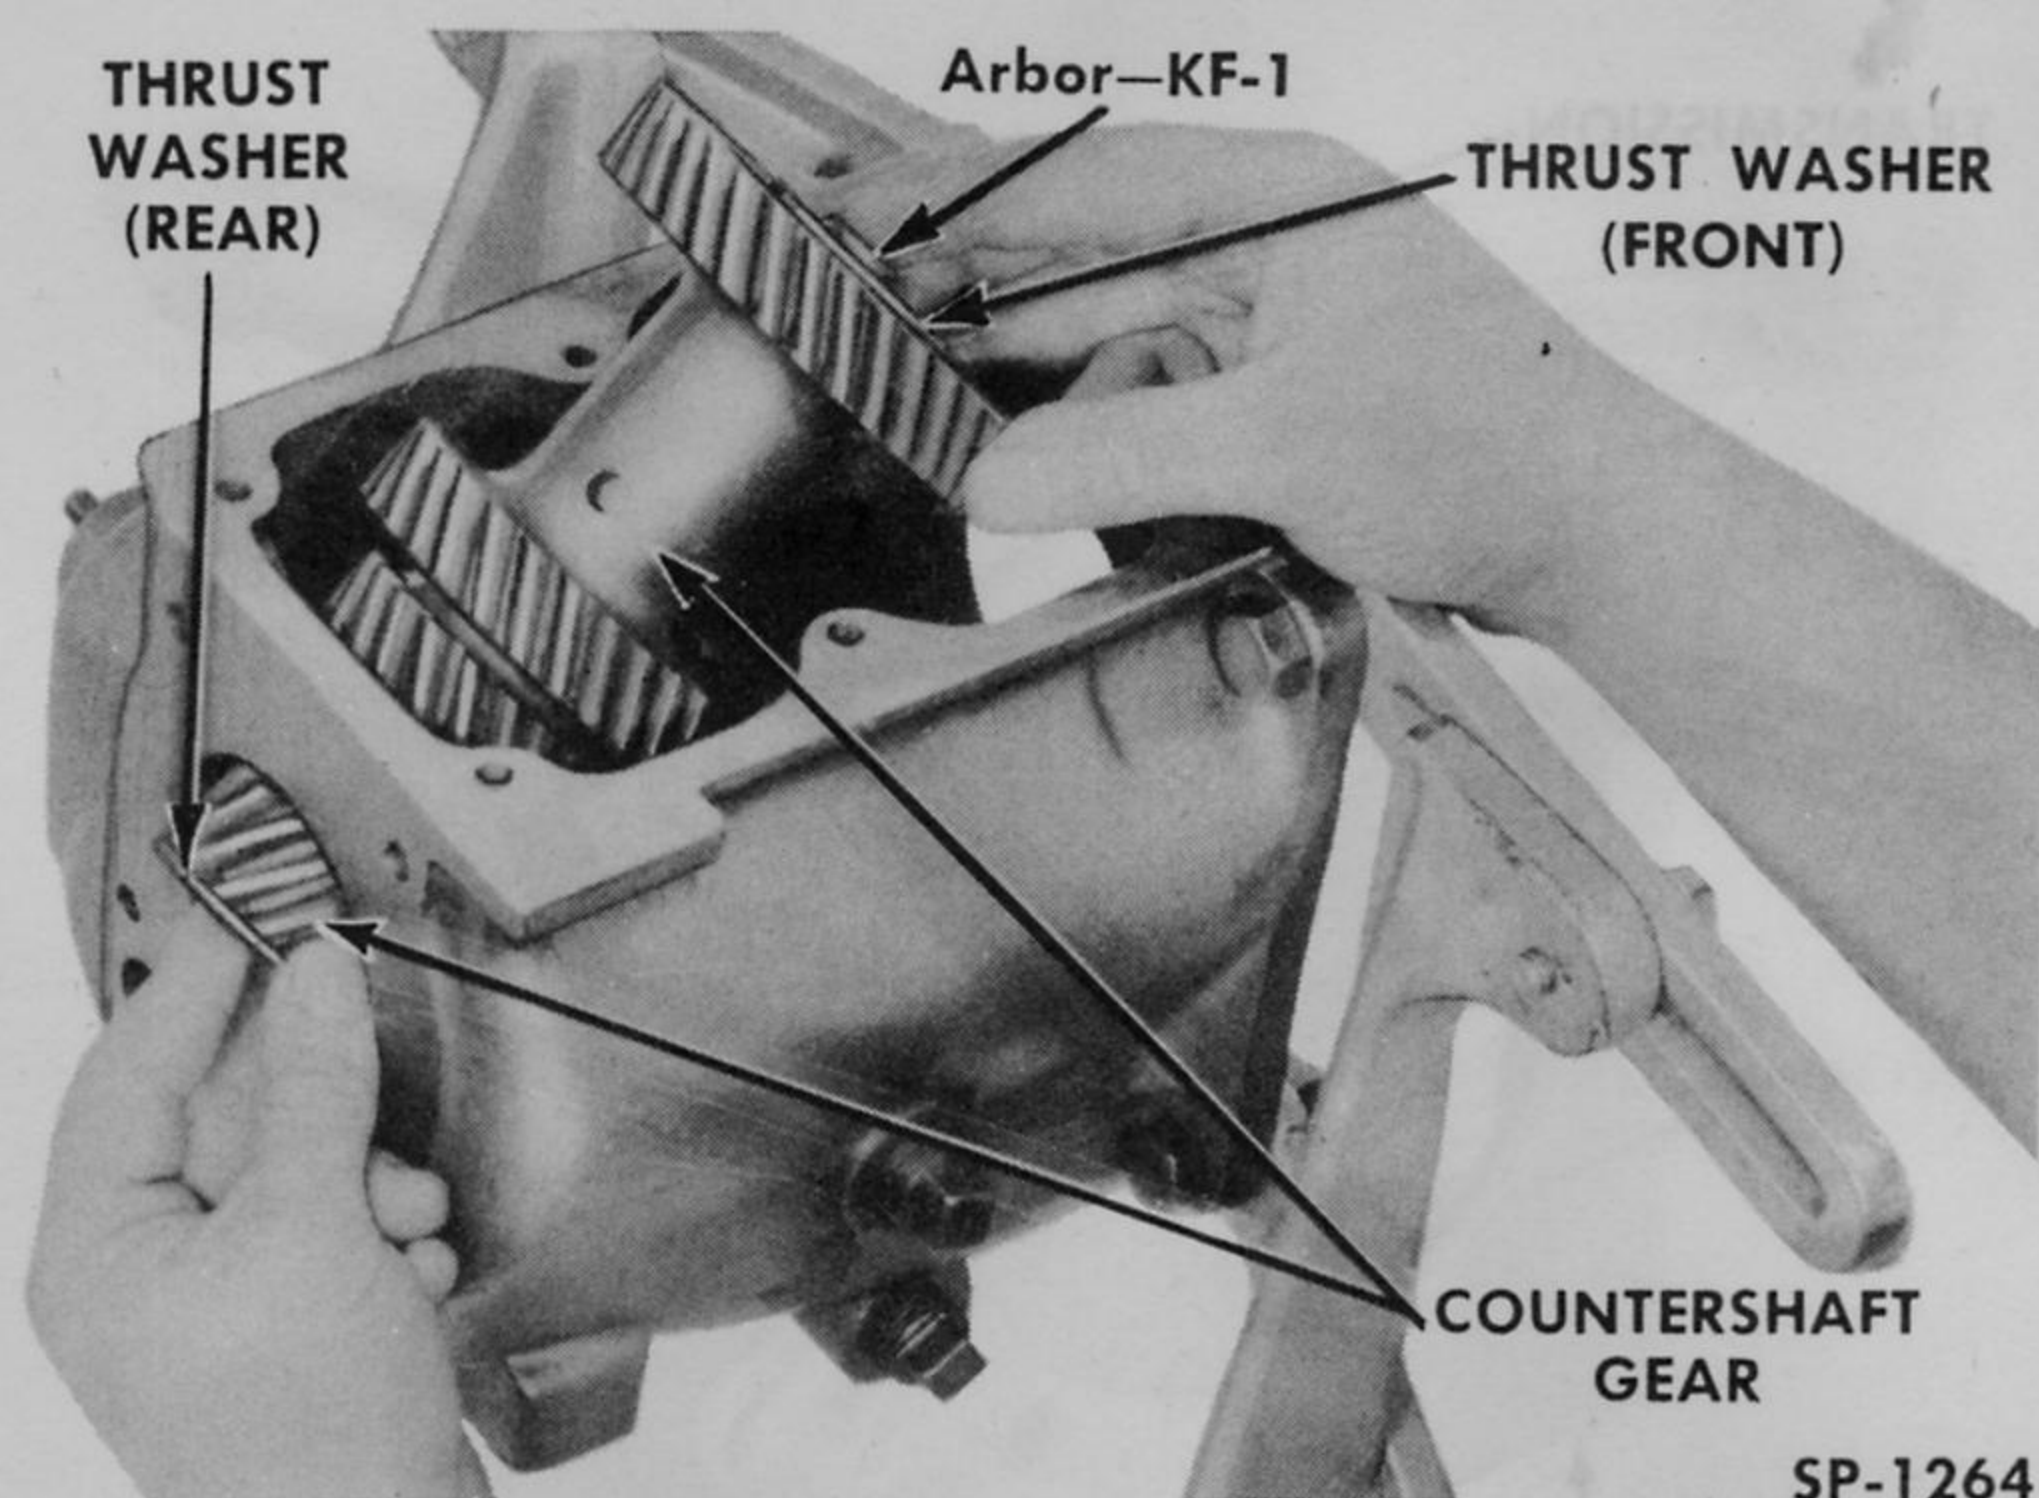
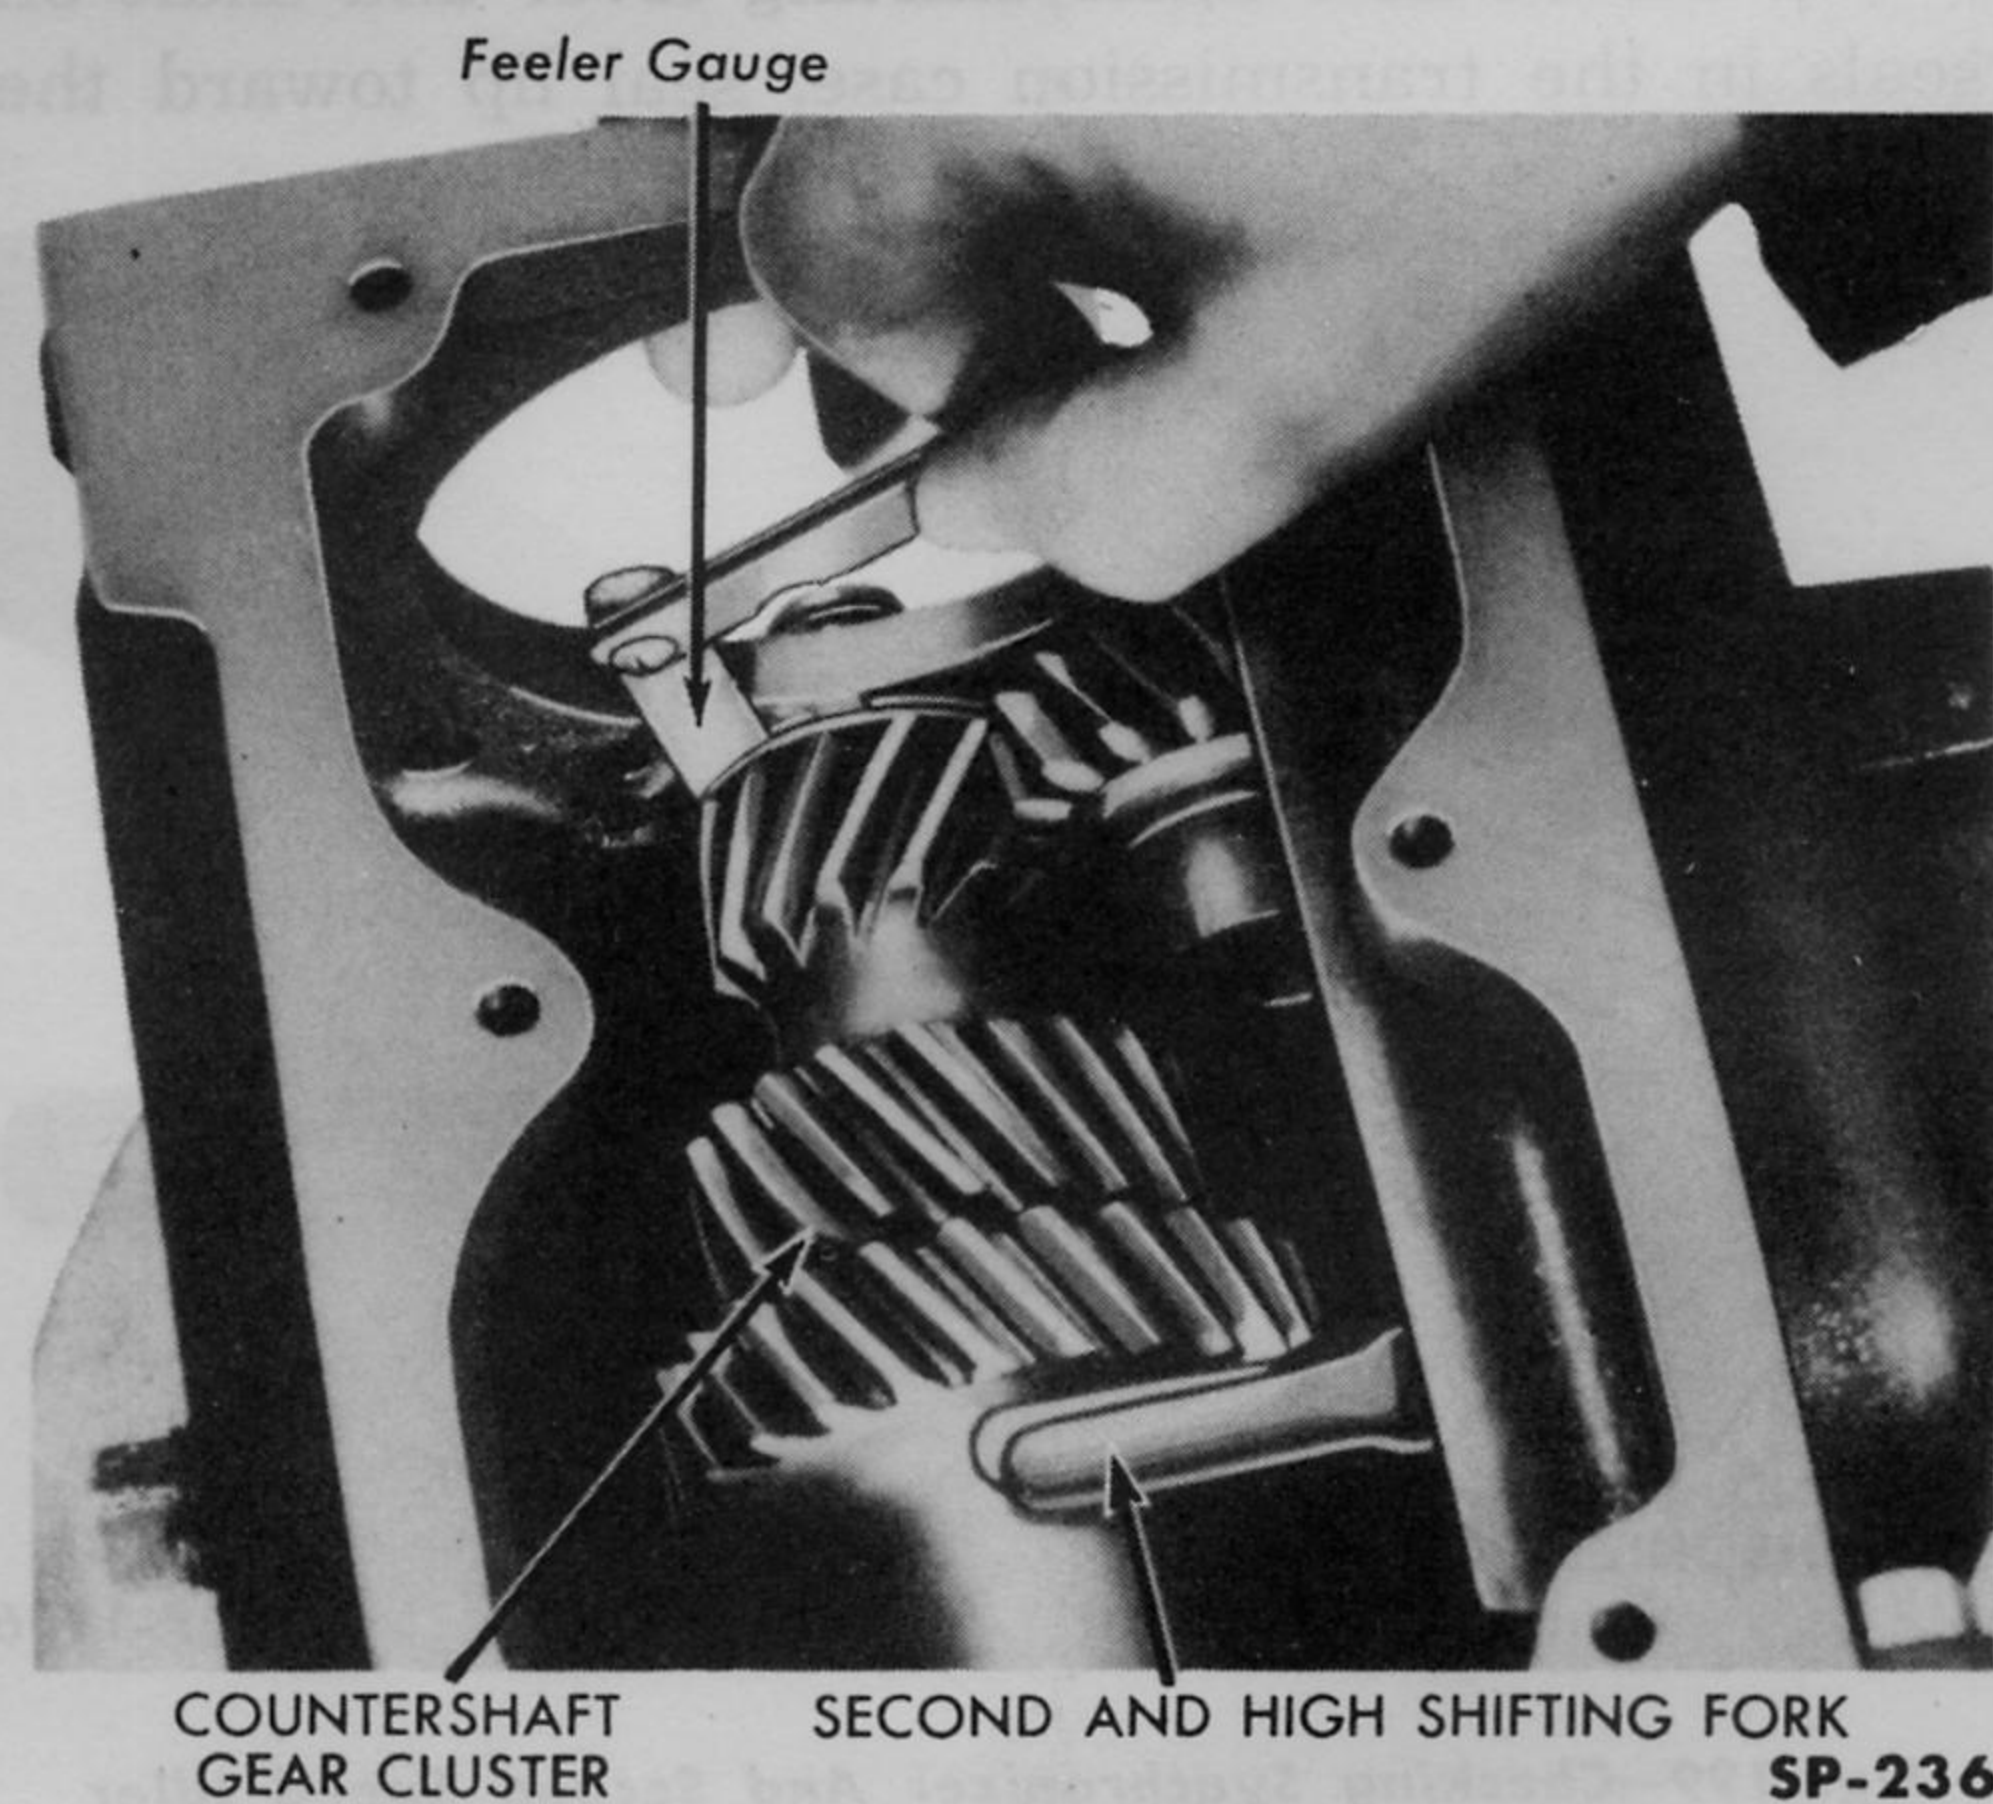

Fig. 193—Removing Countershaft Gear From Case
Fig. 203—Checking Countershaft Gear End-Play
10. Lift the countershaft gear cluster out through the top of the transmission case (Fig. 193). Hold the Arbor KF-1 and thrust washers at the small end of the gear to prevent the arbor from falling out when the gear is tilted when removing it from the case. Carefully note the position of the thrust washers at each end of the gear cluster to assure proper installation at assembly.
The countershaft may now be installed from the top of the case (Fig. 193). The slotted end of the countershaft must be to the rear with the slot facing toward the reverse idler gear shaft slot. Drive out the Arbor KF-1 using the countershaft as the driver. Check the countershaft gear cluster end-play between the two rear thrust washers (Fig. 203). Specified clearance is .002-.006 of an inch.